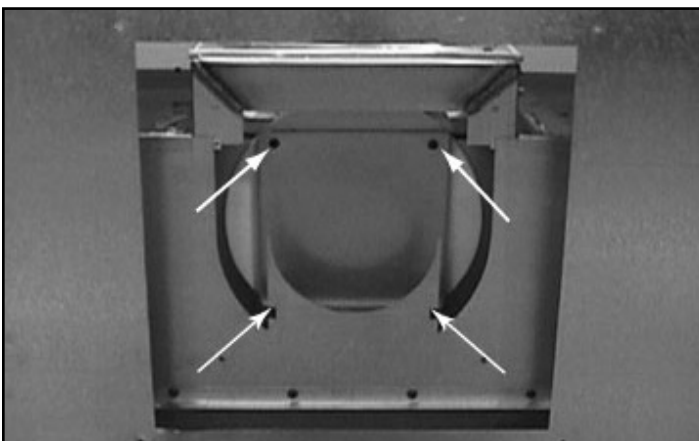

Figure 7.8 Remove Inner Cover Plate
- Remove four screws holding inner cover plate to appliance back. See Figure 7.8. Remove inner cover.